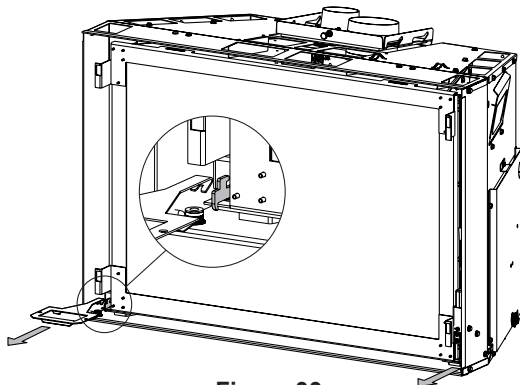

Figure 33
- Check all latches or other door retention components for proper operation, tension, and relief mechanisms are free from obstructions. **See Figure 33.**